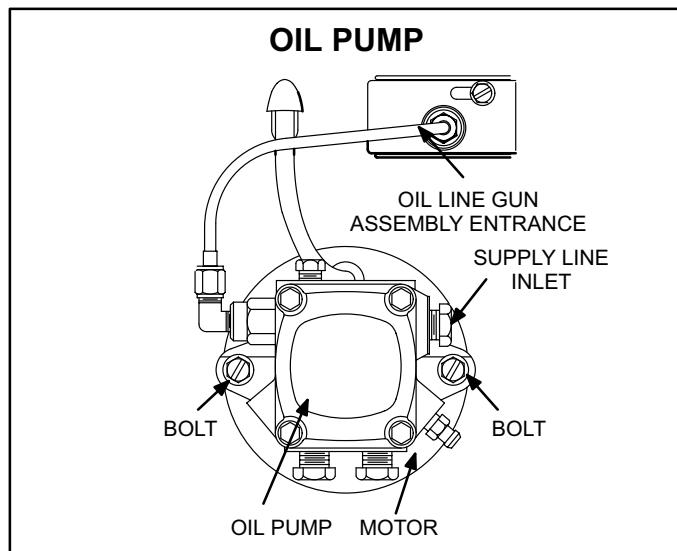

FIGURE 24
- 2 - Loosen two bolts on sides of pump securing pump to blower housing. See figure 24.
- 1 - Disconnect supply line at pump and oil line at gun assembly as shown in figure 24.